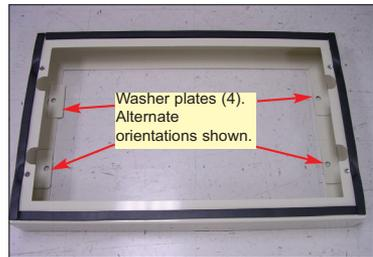

Fig. 9
- Place the rectangular washer plates (found in the hardware package) onto the enclosure base aligning the holes with the anchor locations in the pad (or placing over cast-in-studs) (Fig. 9).